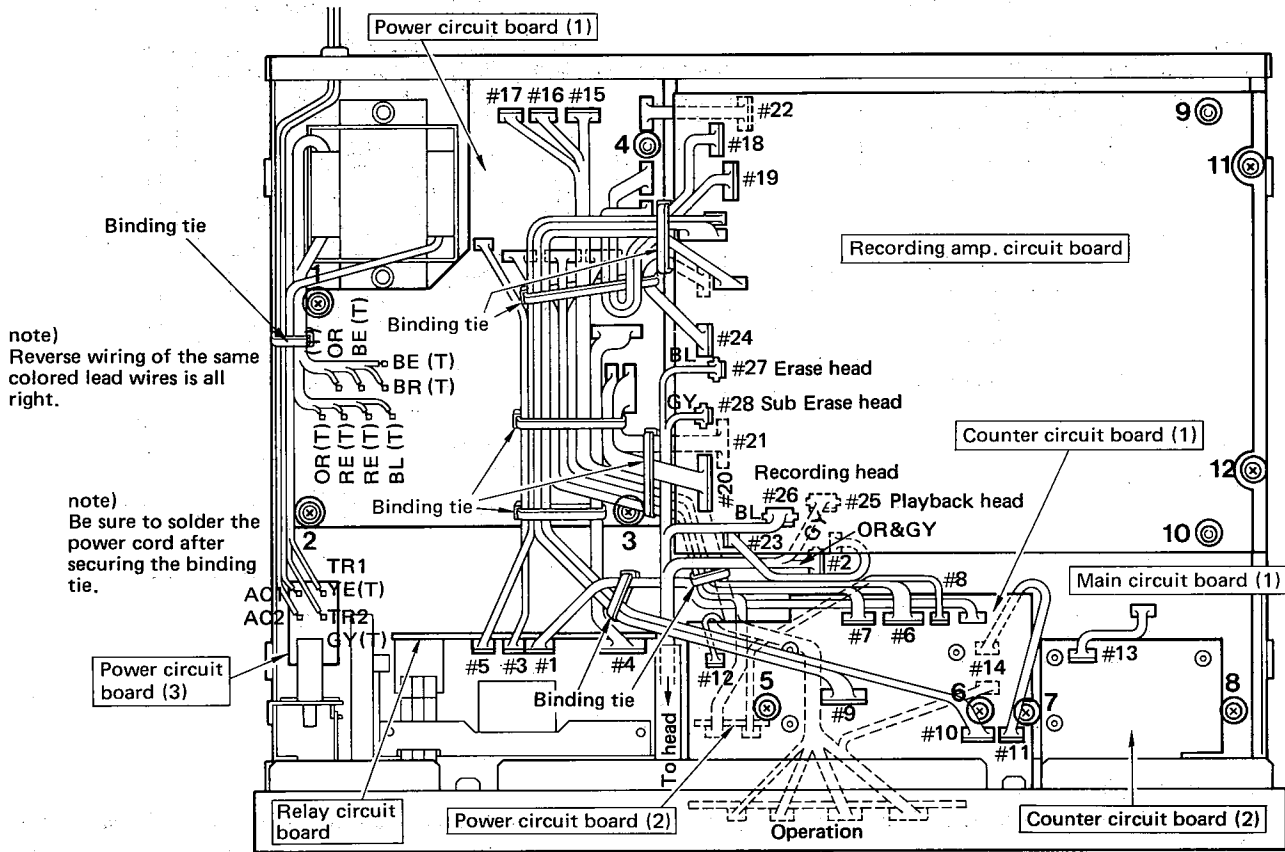
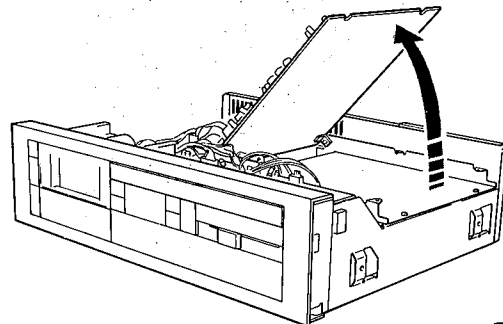

Fig. 15
Fig. 16
- b. Disconnect the connectors (#1, #3, #4, #5) connected to the relay circuit board. (Refer to fig. 15)
- c. Disconnect the head lead wire connectors #25, #26, #27, #28). (Refer to fig. 15)
1. Counter circuit board (1) removal
Remove screws ⑤ and ⑥ in fig. 15 and then pull out the counter circuit board (1) by sliding it backward.
2. Counter circuit board (2) removal
Remove plastic rivets ⑨ and ⑩ in fig. 15 and then rotate the recording amp. circuit board upward. (Refer to fig. 16)
Remove screws ⑪ and ⑫ (don't remove plastic rivets ⑨ and ⑩) in fig. 15 and then rotate the recording amp. unit upward.